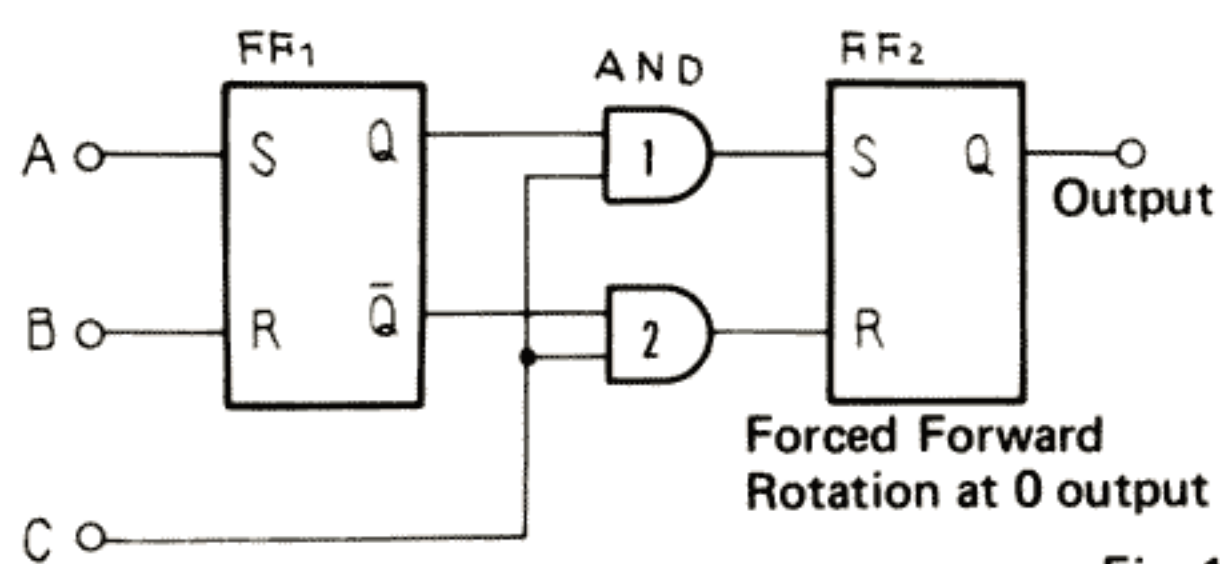

Fig. 12
5. This Reverse Rotation Prevention circuit consists of two flip-flops and AND gates See Fig. 12.